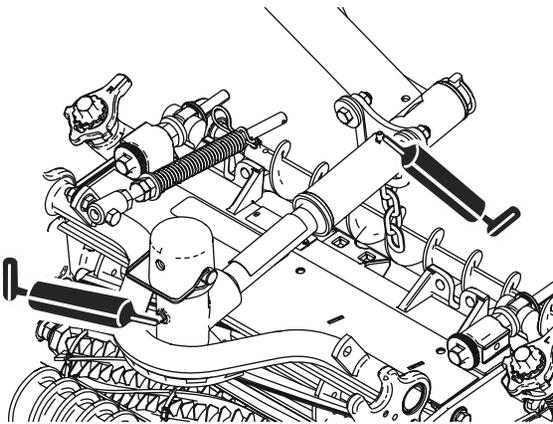

Figure 59
- Cutting unit pivots (2 each); refer to Figure 59.